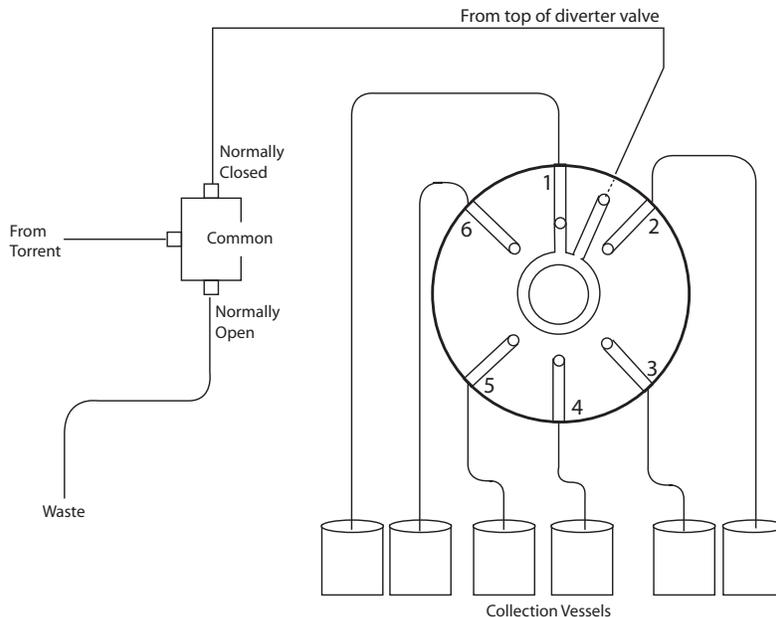

Figure 2-6 Six-port valve connections
3. Cut lengths of tubing and connect the pieces to the six numbered outlet ports on the front valve (Figure 2-6).